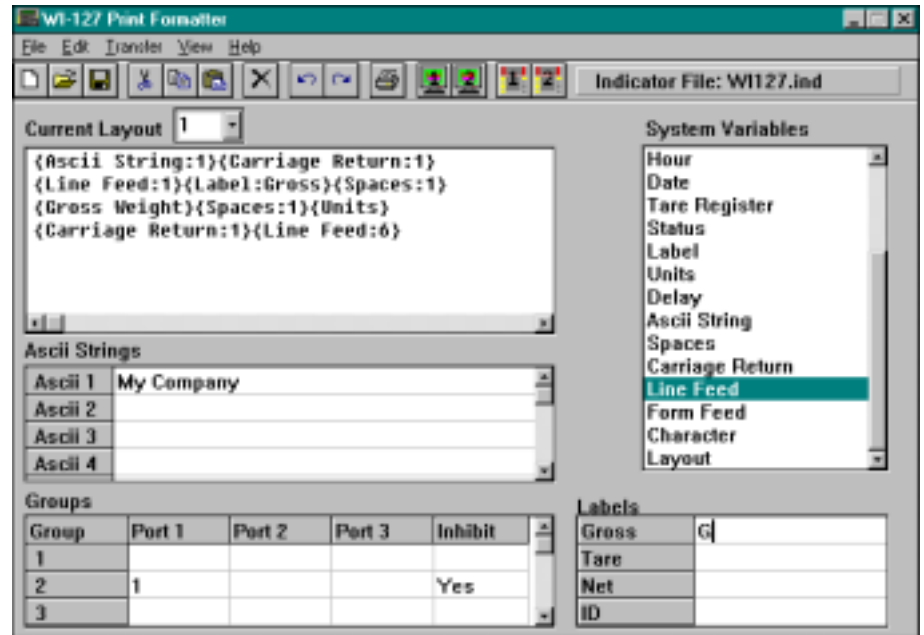

Figure 5
Double click on Line Feed (1) in the system variable list to insert this into the layout. This causes the next line of text to be below the first and lined up on the left side of the print field. Double click on Label (Gross), Spaces (1), (*Press the **ENTER** key to wrap the text*), Gross Weight, Spaces (1), Units, (*Press the **ENTER** key to wrap the text*), Carriage Return (1) and Line Feed (6). Now you need to enter a label for Gross. We used the letter G in the example so type a **G** next to Gross in the Labels section of the window. You can use up to 16 characters in a label. The layout window will look like Figure 5.